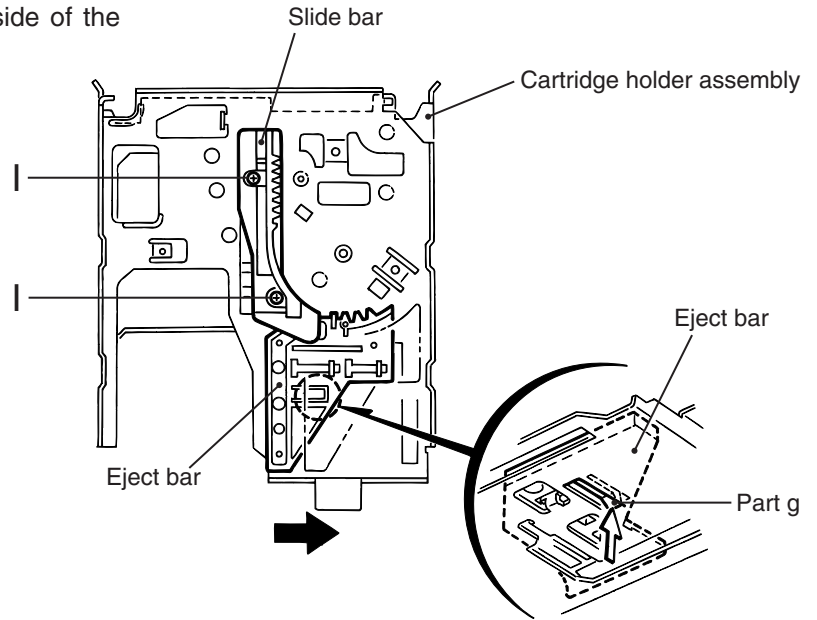

Fig.14
■ Removing the cartridge holder assembly (See Fig.14 and 15)
■ Removing the slide bar and the eject bar (See Fig.14 and 15)
2. Move the eject bar outward until it stops as shown in Fig.14. Push the convex part g on the bottom of the body and remove the eject bar from the chassis.